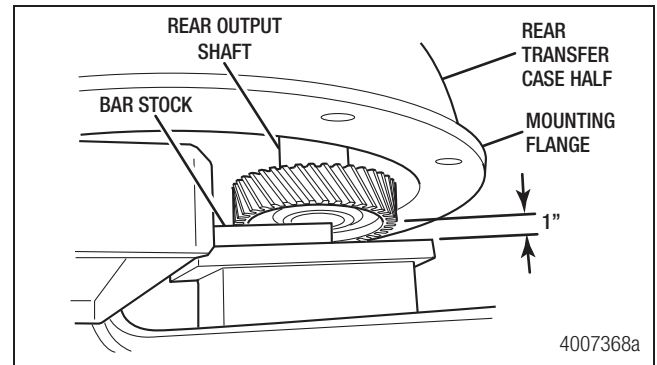

Figure 7.19
- Use bar stock or other material to support the rear output shaft underneath the rear transfer case half. Ensure the bar stock does not rest under the transfer case mounting flange, but only supports the gear and shaft assembly. Figure 7.19.